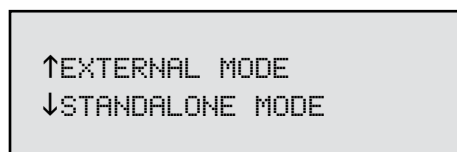
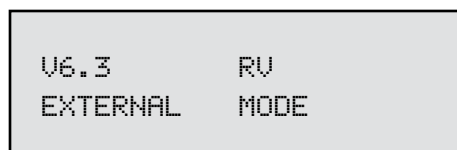

Figure II-23
Figure II-24
The DV-II+Pro Viscometer can be used in conjunction with Brookfield software, Rheocalc (V2.4 or higher). Through Rheocalc, all viscometer functions are controlled by the computer. The DV-II+Pro must be set to the external control mode to allow for proper communication with Rheocalc. To configure the external control mode, connect cable DVP-80 to the serial port on the DV-II+Pro **before** turning on the DV-II+Pro. With the DVP-80 cable in place, the DV-II+Pro will present the screen shown in Figure II-23 when it is turned on. If external control is selected, the DV-II+Pro will display Figure II-24 and only accept control commands from Rheocalc software.
*Note:* The DV-II+Pro cannot communicate with DVLOADER software in the external control mode. Choose “Stand Alone” when presented with Figure II-23 if you want to use DVLOADER.